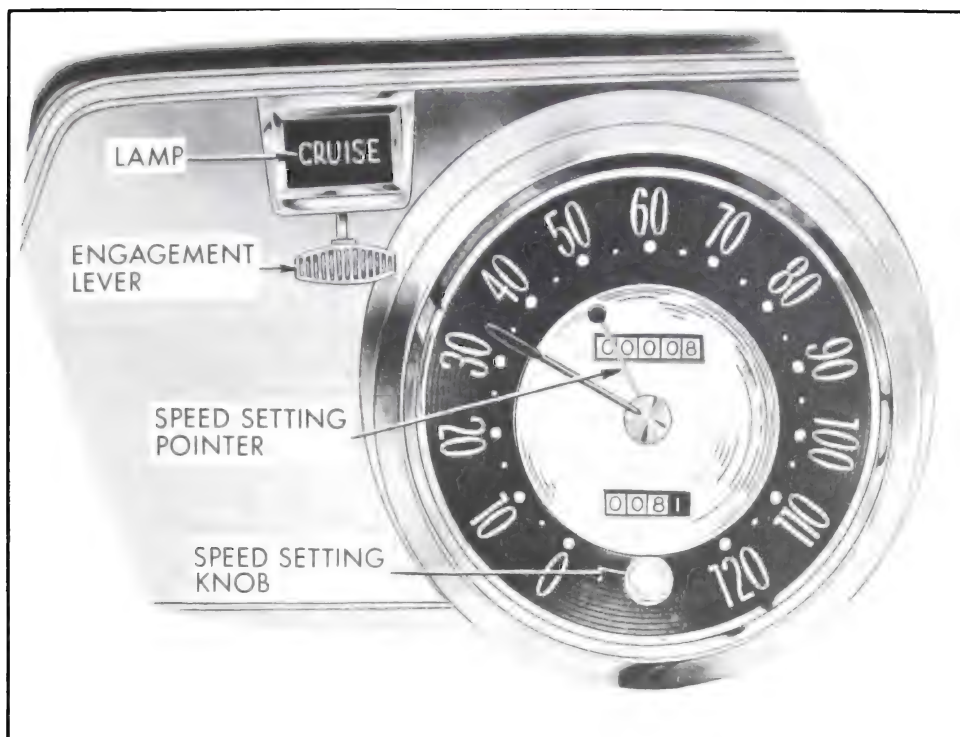

Figure 11-172—Electro-Cruise Controls - 4400, 4600 and 4800 Series
1. SPEED SETTING - The speed setting pointer moves over the existing speedometer scale and is set to the desired speed by rotating the speed setting knob at the bottom of the speedometer. See figure 11-172. The desired speed can be set either with the system engaged or disengaged; however, car speed will only be controlled by the Electro-Cruise when the system is engaged. If the speed setting is changed while the system is engaged, car speed will increase or decrease automatically to coincide with the desired setting.
2. ENGAGEMENT - The engagement switch lever and CRUISE lamp assembly is located to the left of the speedometer on 4400, 4600 and 4800 Series cars and fully controls the engagement of the system. See figure 11-172. On 4700 Series cars the unit will be located to the right of the steering column. To engage the system, it is necessary only to depress the